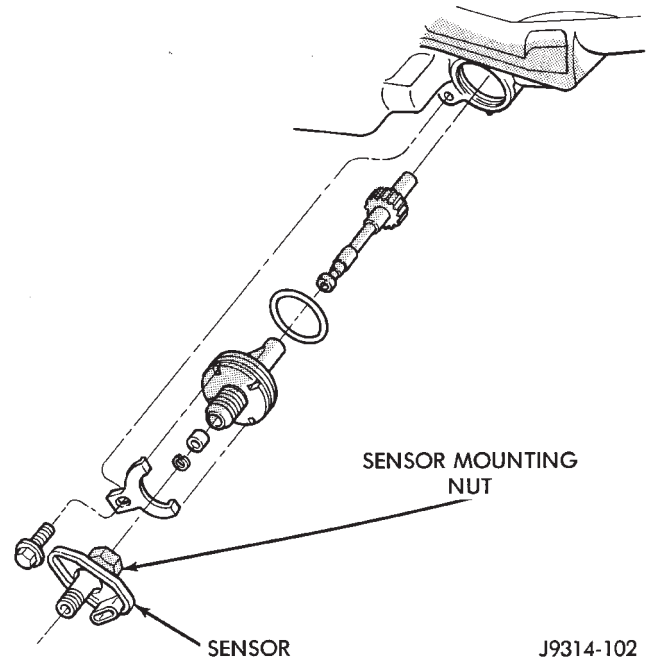

Fig. 28 Sensor and Components
- (1) Raise and support vehicle.
- (2) Disconnect the electrical connector from the sensor.
- (3) Remove (unscrew) the speedometer cable from the sensor (Fig. 28).
- (4) Loosen the sensor mounting nut (Fig. 28).
- (5) Remove the sensor.